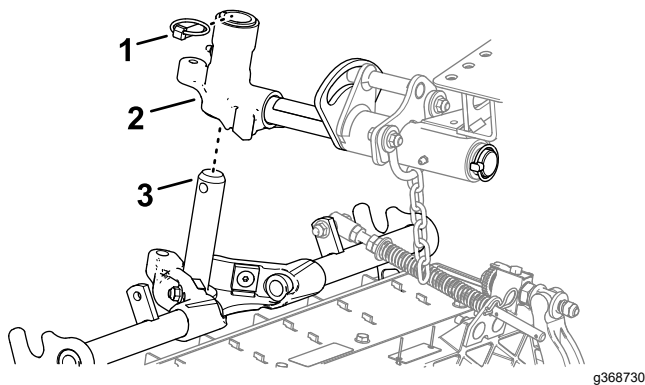

Figure 26
1. Slide a cutting unit under the lift arm (Figure 26).